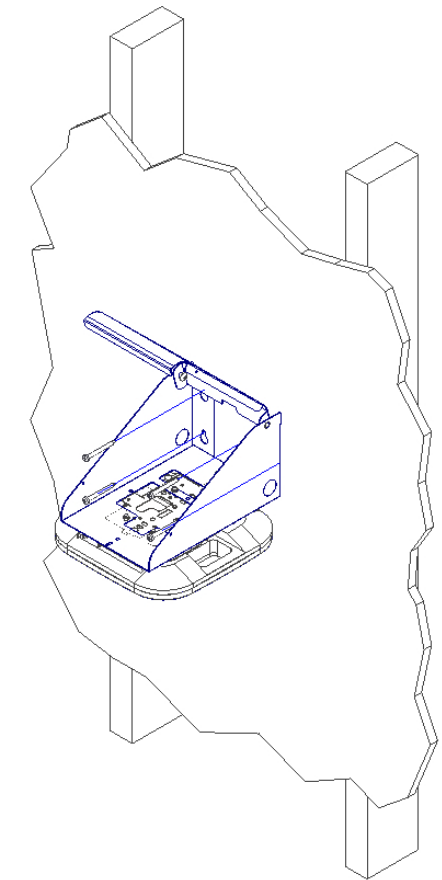

Figure 3
Step 4 – Place the mount on the wall where it is to be installed (it is recommended that you mount directly to a stud if possible) and mark the screw locations. Use a minimum of two (2) #10 x 2" or larger screws (not included) to secure the mount in place. However, if there is no stud at the mounting location, it is recommended that you use a minimum of 4 suitable anchors to secure the mount in place (Figure 3). Due to the weight of this unit, plastic expansion wall anchors are not adequate for drywall installations. During installation, Oberon recommends that one of the following be used: 1) threaded drywall anchors; 2) threaded drywall toggles; 3) sleeve type hollow wall anchors (a.k.a. molly bolts); or 4) toggle bolts.